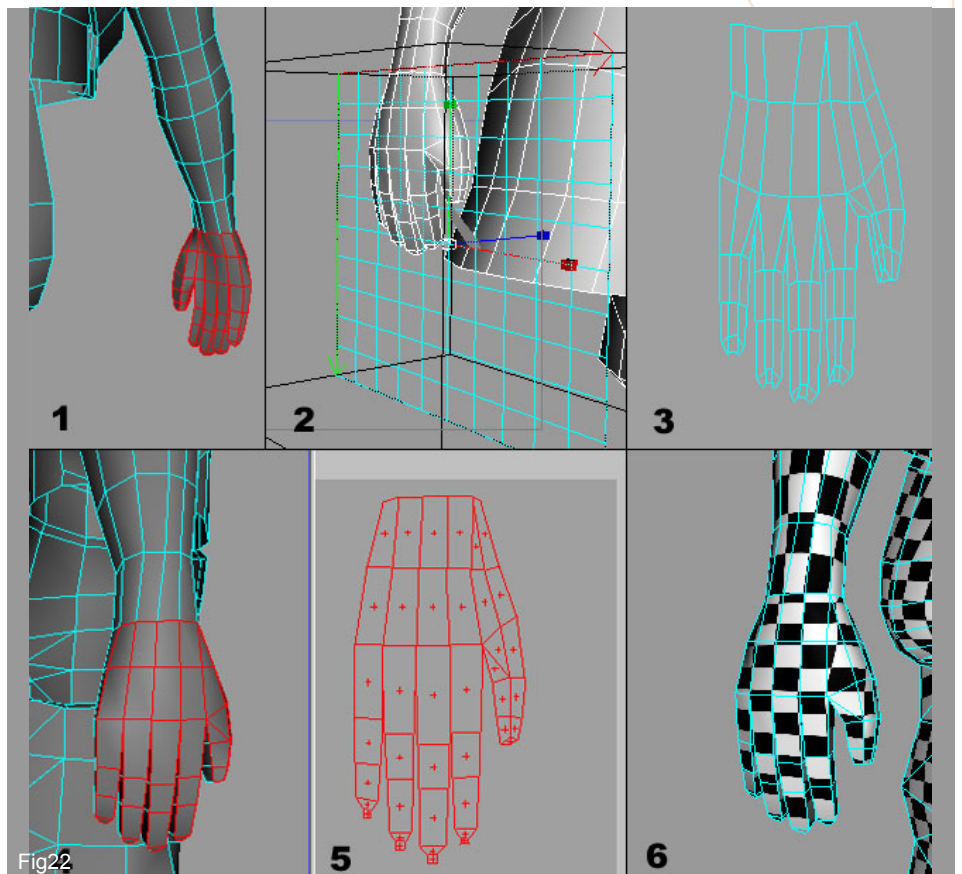

Fig22
22. The hand will be mapped with a Flat map as you see in Fig22. In the stage 1 I have selected the palm of the hand and then I applied a Flat projection by using the Interactive Mapping. (2). I also used the Relax UV tool in order to avoid the overlaps and then I have refined the mesh moving the inside vertexes of the fingers (stage 3). Same procedure for the rest of the hand. Select the poly's as seen in the stage 4, apply a Flat map and adjust the mesh (stage 5). Scale the hand in order to obtain the similar size of the squares to the rest of body (stage 6).